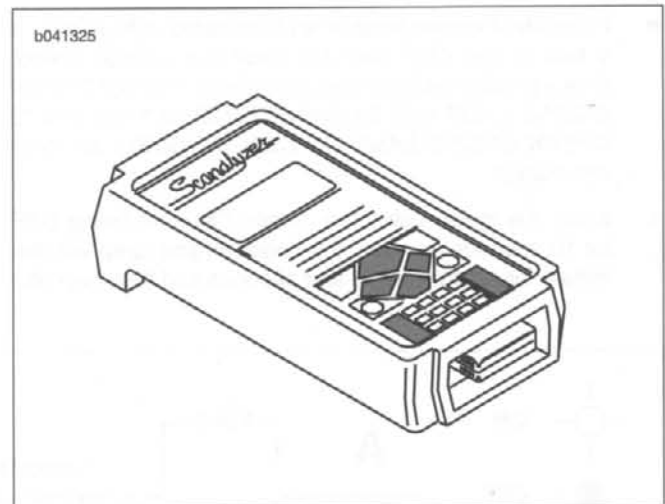

Figure 4-3. Scanalyzer
2. Retrieve trouble codes using SCANALYZER (Part No. HD-41325) or check engine lamp diagnostics. See 4.4 SCANALYZER, 4.5 CHECK ENGINE LAMP DIAGNOSTICS and Figure 4-3.